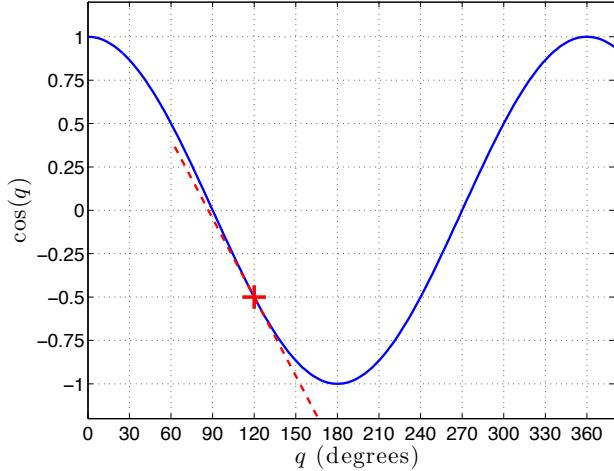

Figure 2: Cosine function and operating point.
- Here, $b = f(x_{eq})$ is what the function equals at *exactly* the operating point, x_{eq} . For our example, $b = \cos\left(\frac{4\pi}{3}\right) = -0.5$, which is the highlighted operating point (+ symbol) in Fig. 2.
- The slope of $f(x)$ evaluated at x_{eq} gives us m , i.e., $m = f'(x_{eq}) = \frac{df}{dx} \bigg|_{x_{eq}}$. For our pendulum example, $m = \frac{d}{dx} \cos(x) \bigg|_{x_{eq}} = -\sin(x_{eq})$. Therefore, $m = -\sin\left(\frac{4\pi}{3}\right) = \frac{-1}{2}\sqrt{3} \approx -0.866$. The slope is illustrated by the dashed line in Fig. 2.
- In \tilde{A} , some rows will simply have zeros and ones, again analogous to Eq. 13. The other rows will contain partial derivatives. Thinking in terms of some nonlinear matrix equations analogous to “ $F = ma$ ”, the matrix M includes effective mass terms (inertia terms, to be more precise) that are multiplied by accelerations (\ddot{q} terms). Within the “ F ” part, \tilde{A} includes slope values, similar to the illustration from Fig. 2. Once you have $M\ddot{x}$ on one side of your matrix equations, take partial derivatives of all the stuff on the other side of the equation (the “ F ” part), and evaluate these partial derivatives at the operating point, x_{eq} . Plug in the results as appropriate within \tilde{A} , just as we did for Eqs. 10 and 13.